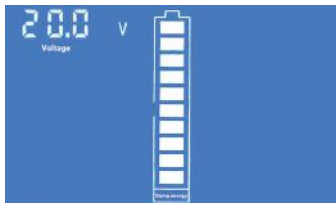
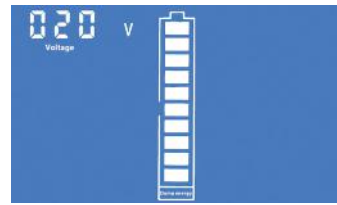

Figure 3: Full voltage setting interface (low bit)
Figure 4: Full voltage setting interface (high bit)
Step 2: SET character blink present it is the setting status of full / cut-off voltage, long press the button until the LCD screen display the interface like fig. 3, then release the button.
So the setting is divided into two parts: low bit (fig. 3) + high bit (fig. 4). For example, the default full voltage is 020.0V, then the display state is 20.0V to 020V low and high cyclic switching display. If you need to set the full voltage is 199.0V, then please set the low bit to 99.0V, when the cycle reaches the high bit, it will display 099V, and only the highest zero bit flickers to prompt you it can be settled. Setting the high bit to 199V represents the full voltage is 199.0V.